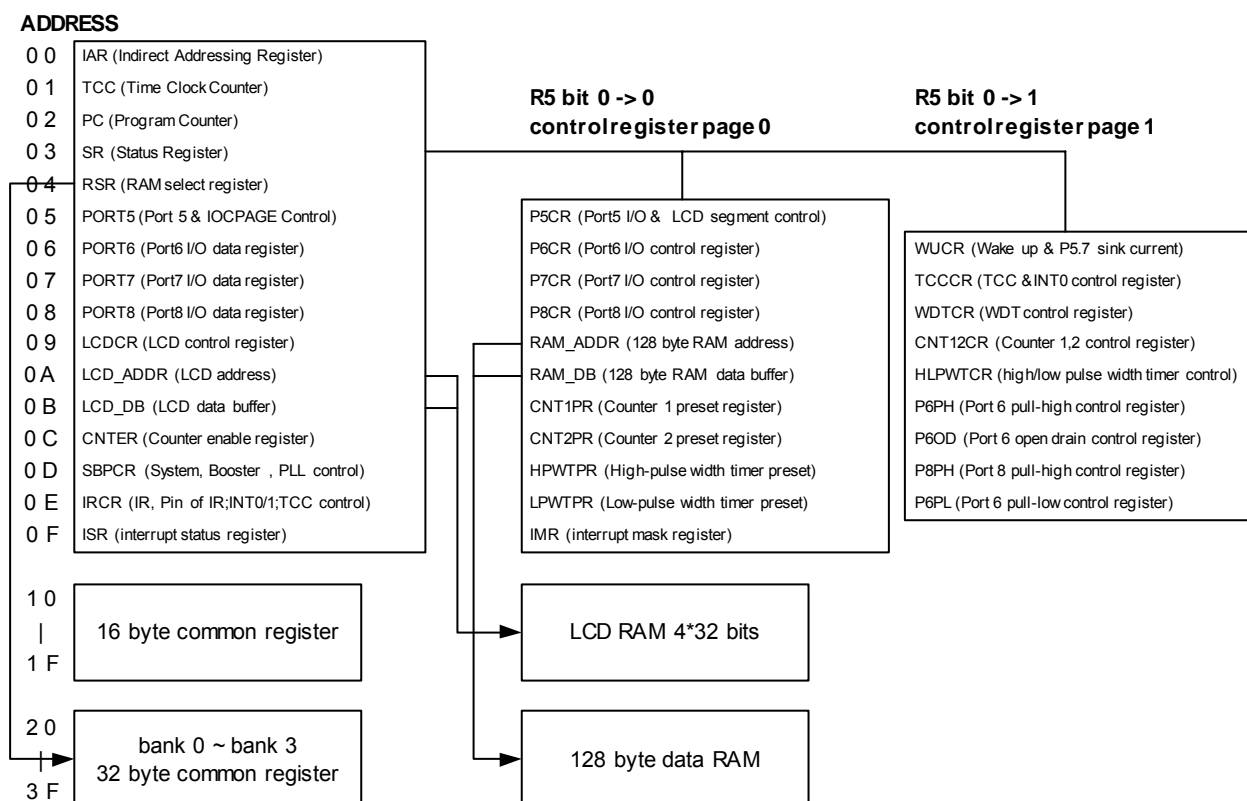

Fig. 4 Data Memory Configuration
**Bits 7 ~ 6 (RBS1 ~ RBS0)** : determine which bank is activated among the 4 banks. See the configuration of the data memory in Fig.4. Use BANK instruction (e.g. BABK 1) to change bank.